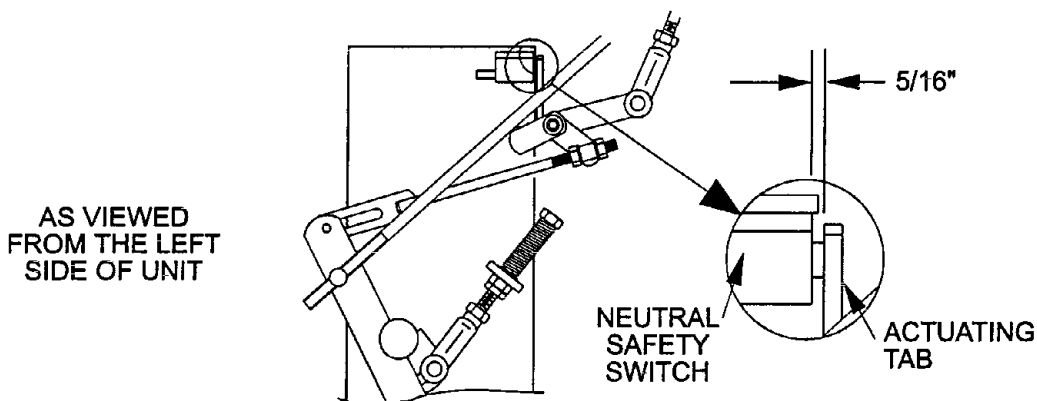

FIG. 12
3. Pull the speed control lever back to neutral. Check that the neutral safety switch actuating tab has depressed the plunger of the switch so that there is about 5/16" between the tab and the switch. See fig. 12. If necessary, move the switch fore and aft.